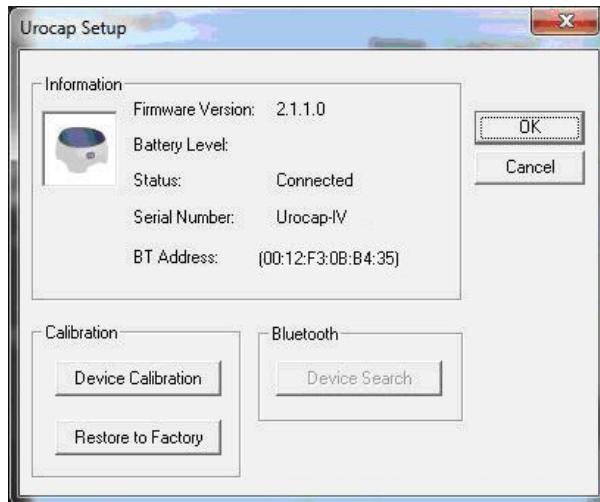

Figure 20: Urocap Setup –Connected
4. When a connection is established, the Bluetooth address and serial number fields will display the device information (Figure 20).